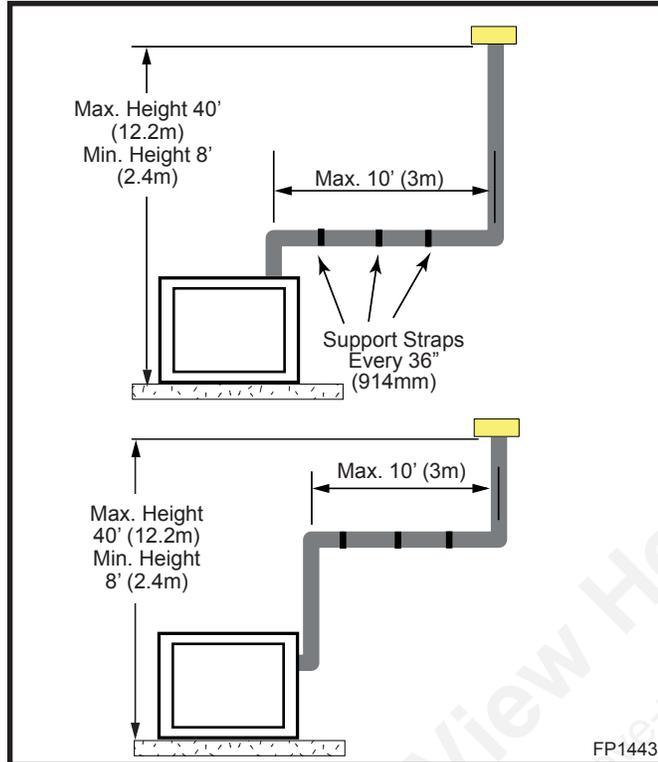

Fig. 30 Support straps for horizontal runs.
- Vertical installations up to 40' (12.2 m) in height. Up to a 10' (3 m) horizontal vent run can be installed within the vent system using a maximum of two 90° elbows. (Fig. 30)
- Two (2) sets of 45° elbow offsets may be used within the vertical sections. From zero to max 8 ft. (2.43 m) vent pipe can be used between elbows. (Fig. 30)